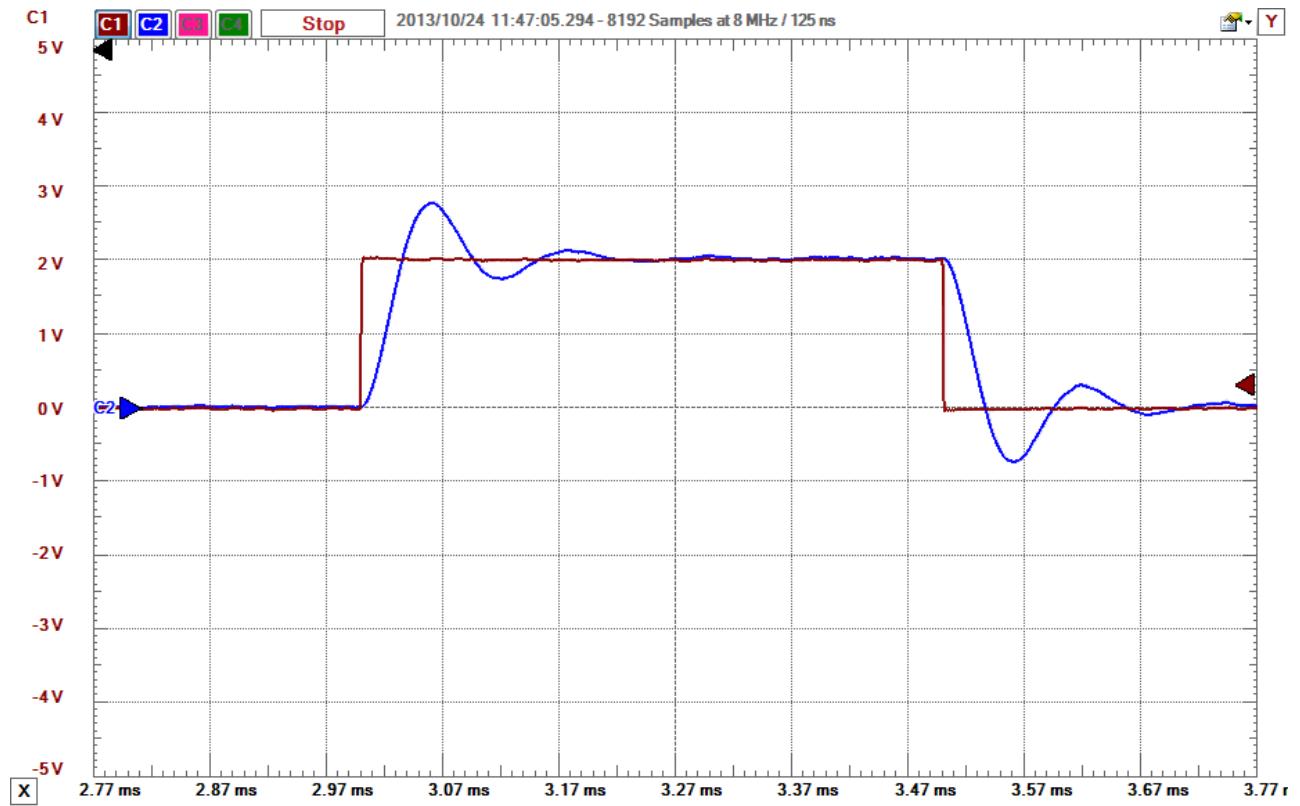

Figure 16. (Open loop) step response of our second order plant.
- 3) To make sure your plant (system) is correct, we will first test the plant, so you need to disconnect this system from the feedback system. Set the input to a  $1\text{ kHz}$  square wave, and the time scale to  $100\ \mu\text{s}/\text{div}$ . The output is the voltage across the capacitor, and you should get a graph like that in Figure 16. Note that this system has a settling time of approximately  $0.25\text{ ms}$  and about a  $30\%$  overshoot. *Include a screen shot of this in your memo.*